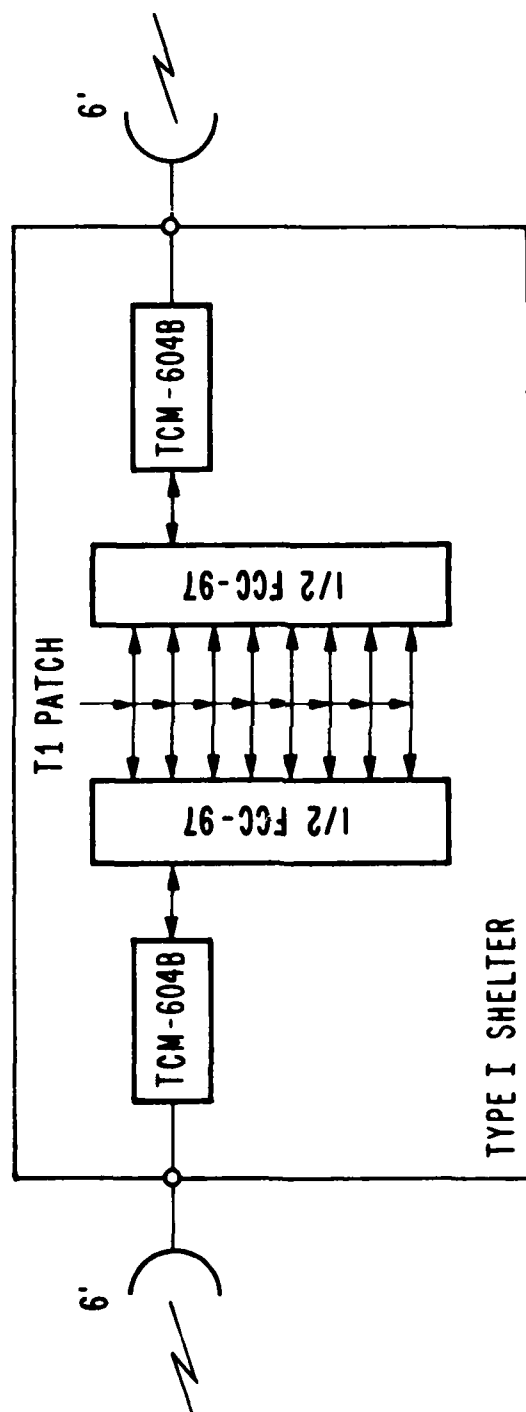

Figure 6. Microwave Repeater
(1) The ability to function as a full-duplex microwave radio repeater with a capacity of up to eight digital groups (digroups) (Figure 6). Each digroup is a 1.544 Mb/s binary data stream consisting of 24 time division multiplexed channels.